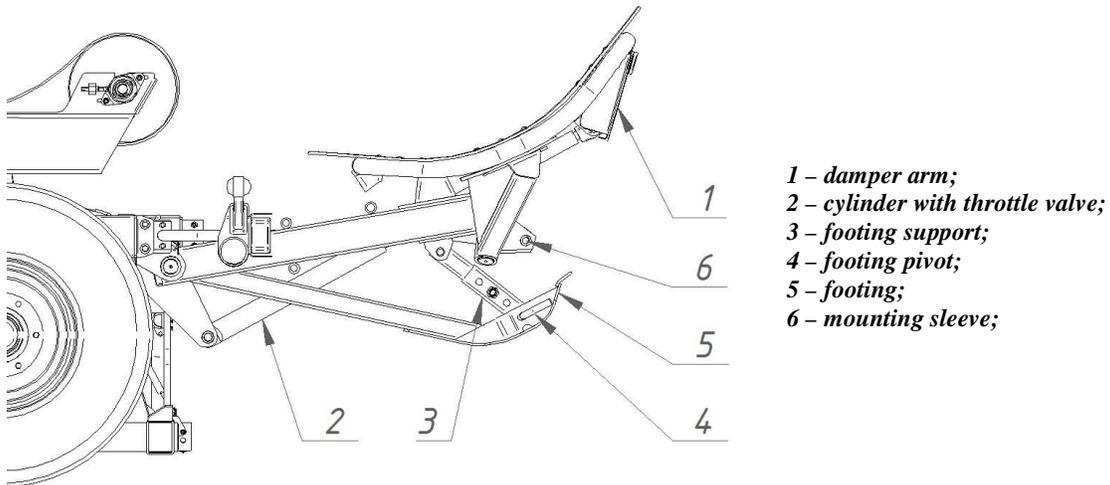

Fig. 36. Bale damper in upper position (prepared for tipping bales on bottom)
Setting the bale damper system for unloading bales on their bottom is presented on Fig. 36. It is done by the connection of the footing support (3) with the footing (5) by the pivot (4). Such setting allows the footing (5) to drop to the ground when the tip frame falls back on the main frame and then the bale damper is turned so that the bale's surface is changed from its side to its bottom.